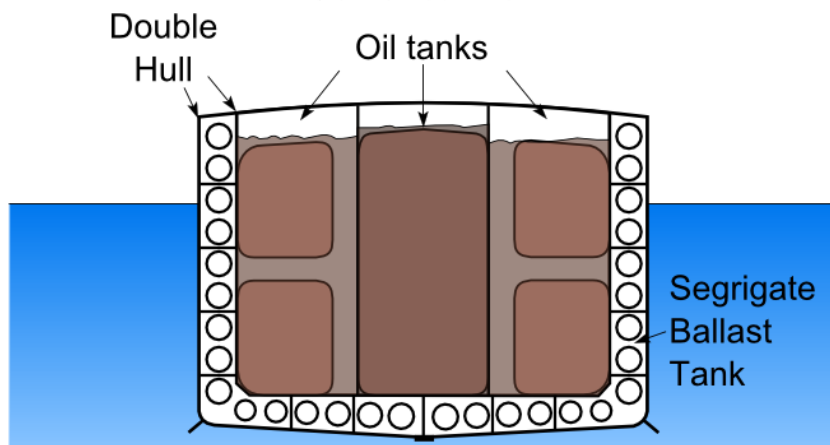

Figure 7. Side and front view of a double hull Oil Tanker^{18,19}
- **Tankers** (e.g. oil tankers –see Fig. 7–)